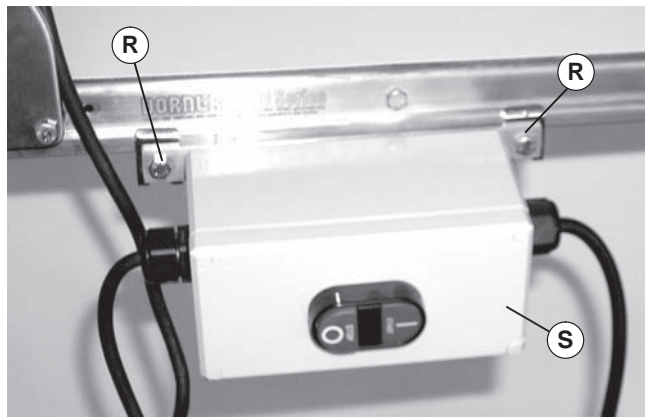

Figure 17
2. Attach motor starter (Figure 17, item S) with clips to conveyor. Tighten screws (R) to 92 in-lb (10.4 Nm).